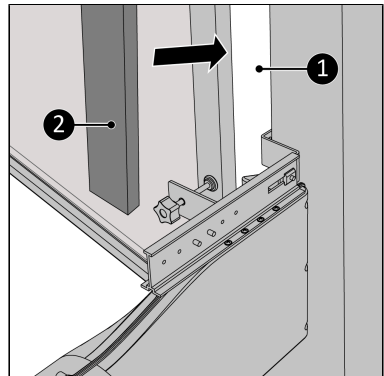

Figure 66.
17. Fill up the open spaces (Figure 66, pos. 1) with the delivered isolation foam (Figure 66, pos. 2), cut the foam if necessary*.